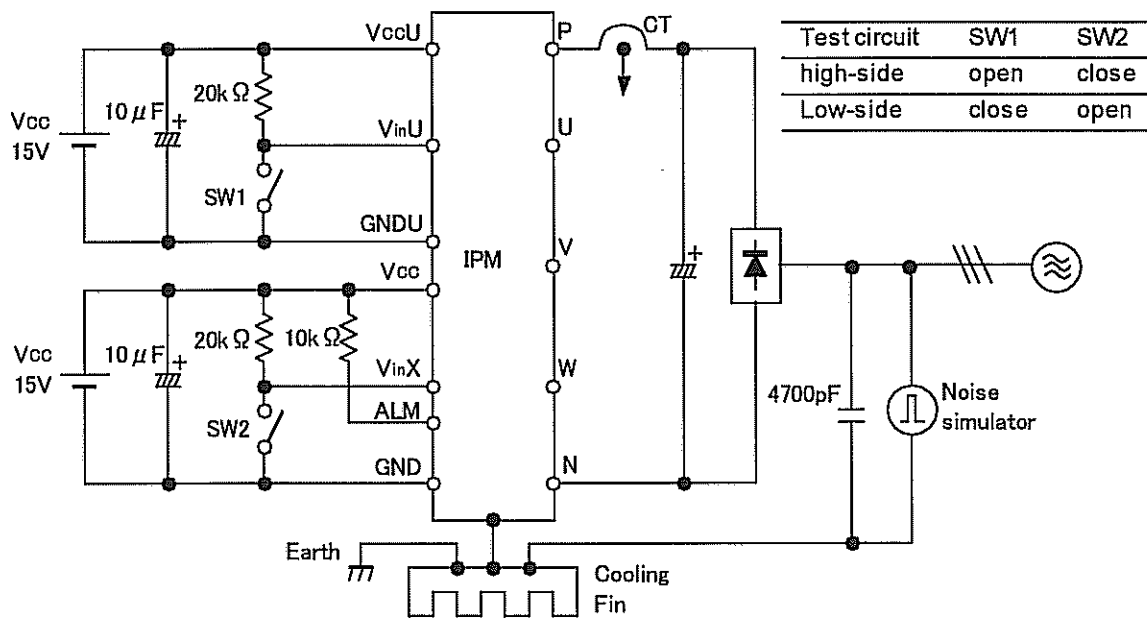

Figure9. Noise Test Circuit
7. Noise Immunity (VDC=300V, VCC=15V, Test Circuit Figure 9.)